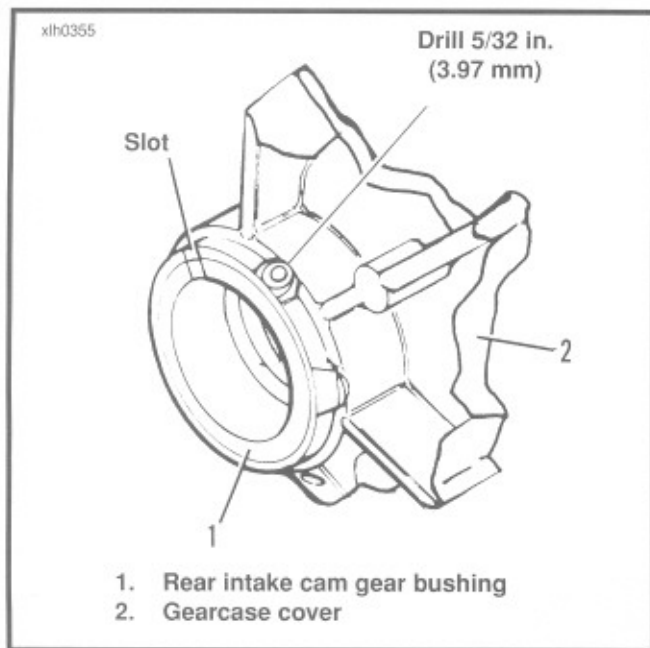

Figure 3-65. Rear Intake Cam Gear Bushing Installed in Gearcase Cover
- See Figure 3-65. Position bushing (1) over bore of gearcase cover (2) with chamfered edge downward and slot upward. Align slot in bushing with slot in gearcase cover boss. Press bushing into cover bore until bushing is flush with cover boss.